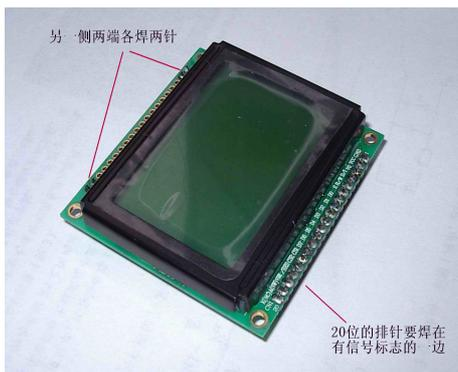

Fig. 2
8. When installing the LCD panel the 20-pin (qty. 1) and 2-pin (qty. 2) SIP headers should be soldered to the LCD module first (Fig. 2 & 3). The shorter ends of the pins should be soldered to the LCD module and the pins need to be perpendicular to the PCB board. The 20-pin header should be placed on the end with the signal labels. Since there are the same number of holes on each side of the module it is easy to place the headers on the wrong side. AVOID THIS!!! The two 2-pin headers are for holding the LCD module to the PCB only, and are not part of the circuit. You need to cut one pin away from the 2-pin header on the right hand side (viewed from the front) since it interferes with the heat sink.